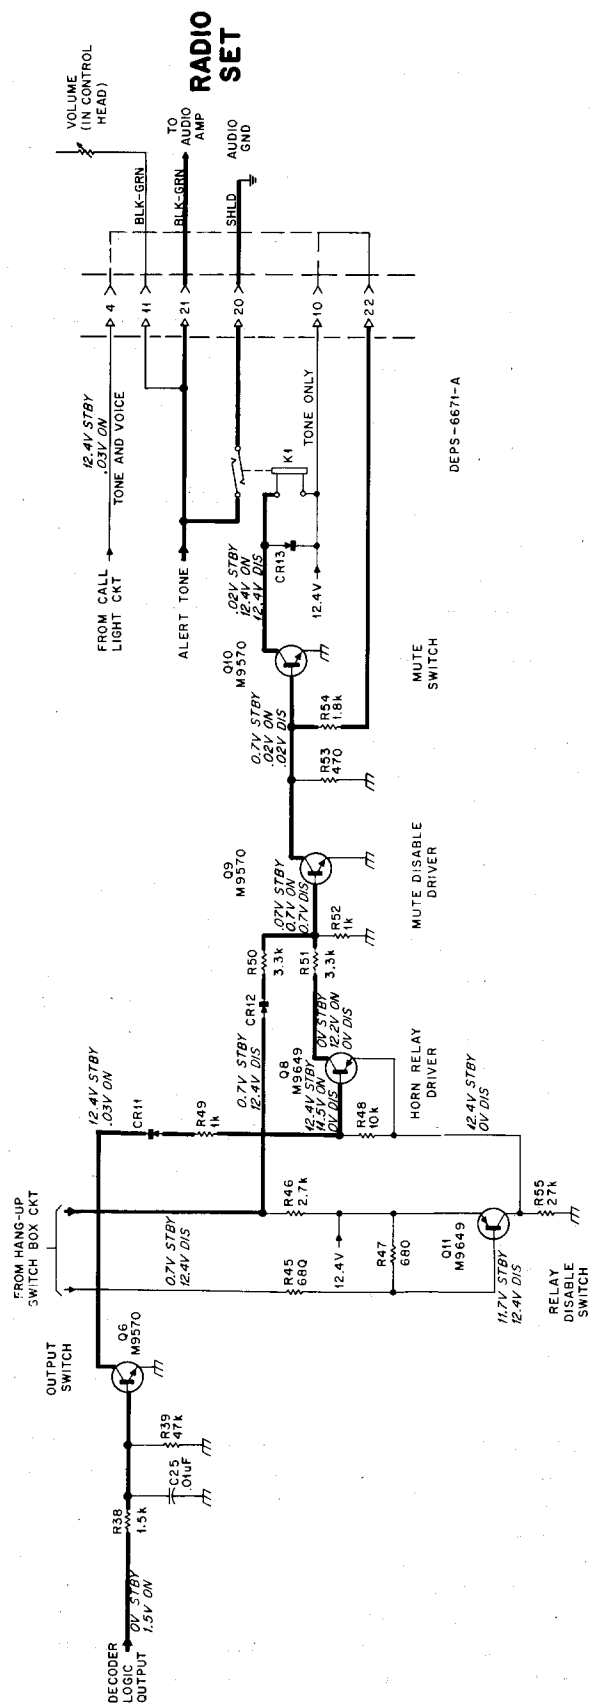

Figure 10.
d. Receiver Unmuting (Refer to Figure 10)